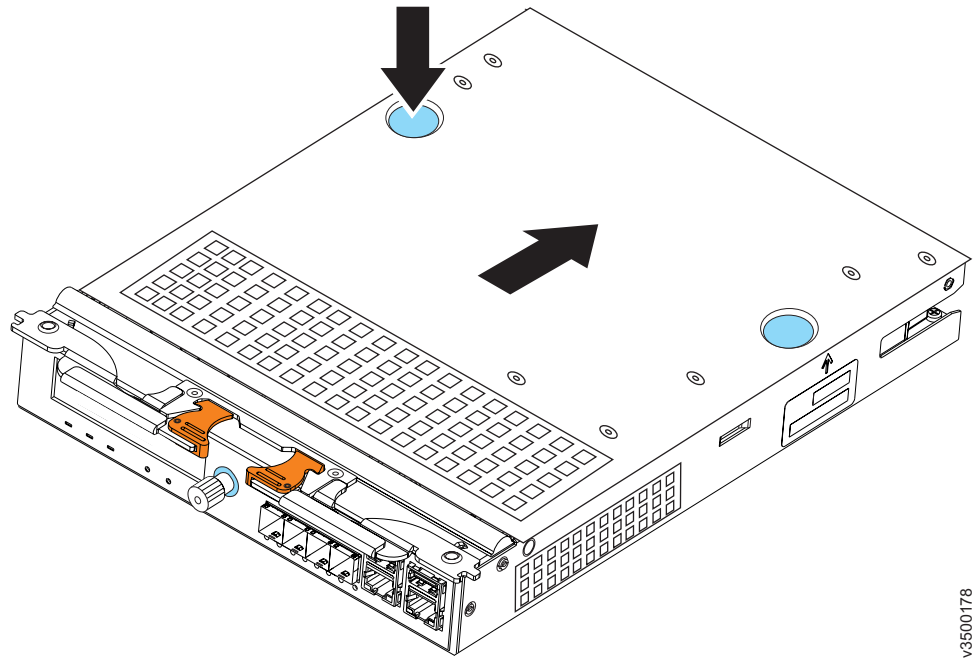

Figure 14. Removing the canister cover
2. Turn the canister over and open the cover as shown in Figure 14.